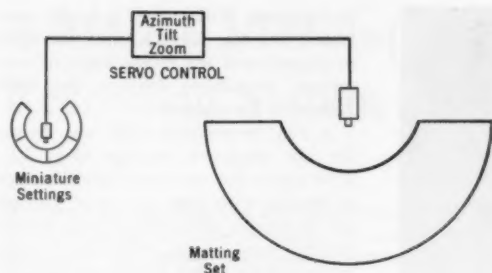

Fig. 7. Diagram of VideoScene setup with servo control.
Other candlepower-beam spread relationships may also be obtained either by using glass covers of various refractive designs on the sealed-beam lamps or by mounting such elements directly in front of the lamps. Figure 7 illustrates representative beam shapes that are possible by refractive means. These curves were obtained by using a single lamp in combination with refractors of various designs. Of course, any system that increases the spread of light in any direction must necessarily reduce the peak candlepower even though the total lumen output remains unchanged. With those refractors that produce beams of considerable spread, the "toe-in, toe-out" adjustment feature that changes the beam spread about 10 degrees would have much less effect or value than with clear covers.
Fig. 7. The basic beam (A) of the lamp with clear cover is smoothed out and broadened only slightly (B) when a lightly stippled cover is used. Refractors make possible much greater modifications of the beam with the corresponding reductions in the peak candlepower that are shown in the few representative examples.
While the actor could now be matted into a miniature setting with quality and realism, it was apparent there was a serious limitation — the camera couldn't move. If either subject or background camera moved the slightest bit, the actor would appear to fly off into space. Under these circumstances, the matte was limited to brief establishing shots and trick effects. To overcome this limitation and provide a real production tool, the two cameras were connected with a servo system (Fig. 7) so that as